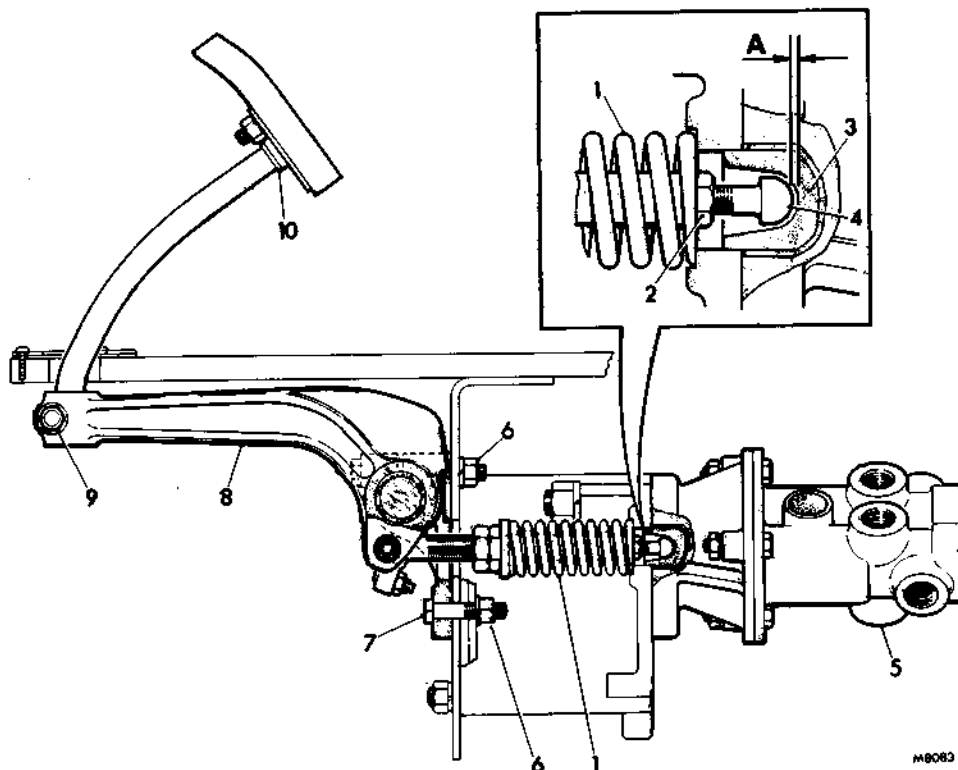

FIG. 1. FOOTBRAKE ASSEMBLY
1. Refitment of the footbrake valve is a reversal of the removal procedure ensuring that a clearance of  $\frac{1}{32}$  to  $\frac{1}{16}$  in exists between the end of the push-rod and the footbrake valve plunger, as shown at 'A' Fig. 1.